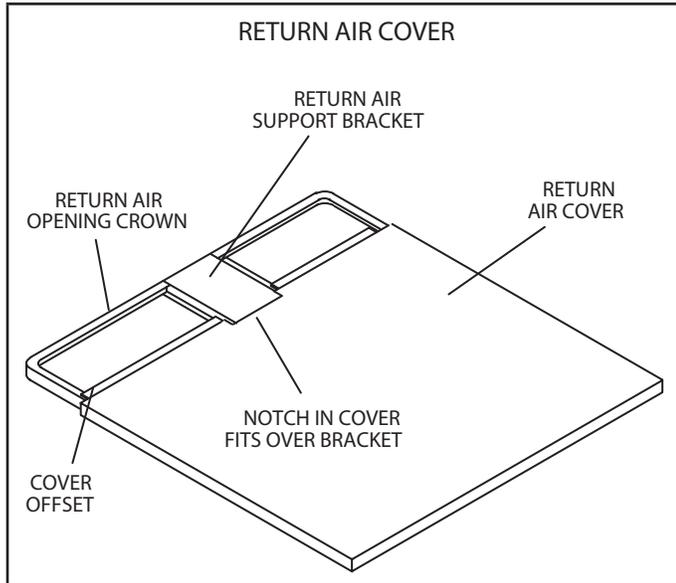

FIGURE 7
- 7 - Position the return air panel over the return air opening with the offset edge toward the unit. Fit the offset edge under the return air opening crown. See FIGURE 7.